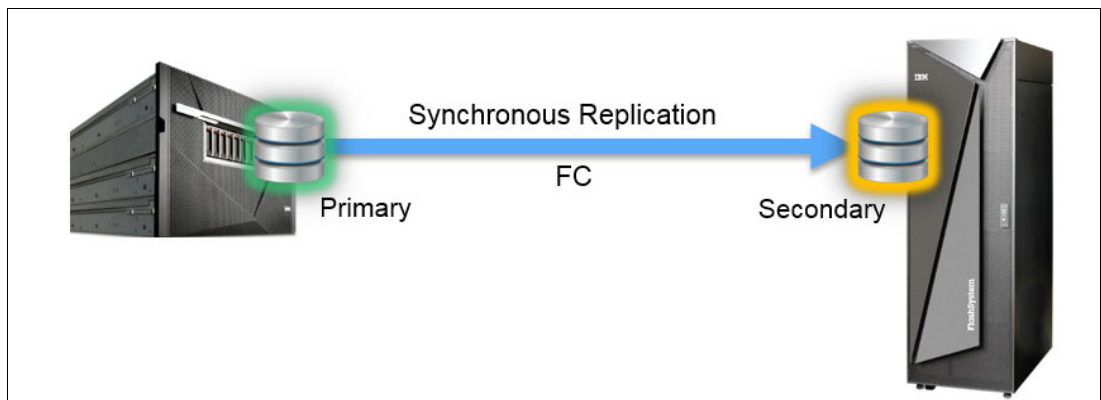

Figure 5-2 HyperSwap volume in synchronous replication over FC
As shown in Figure 5-2, each HyperSwap enabled volume exists simultaneously on two FlashSystem A9000 or A9000R peer systems (depending on the specific deployment), in an active-active relationship, synchronously replicated over Fibre Channel (FC).